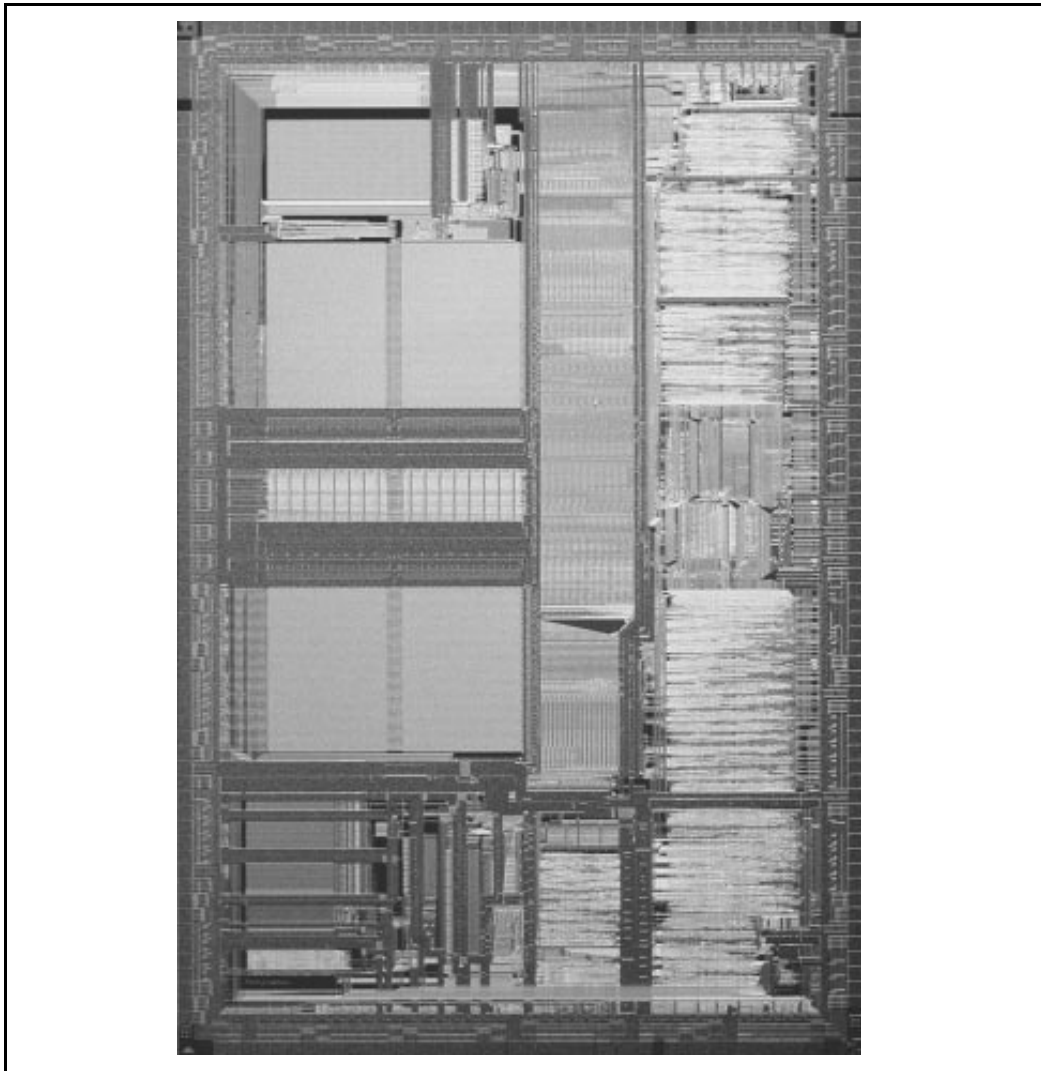

Figure 1. Embedded Ultra-Low Power Intel486™ SX Processor Die Photo
- Figure 1. Embedded Ultra-Low Power Intel486™ SX Processor Die Photo 1